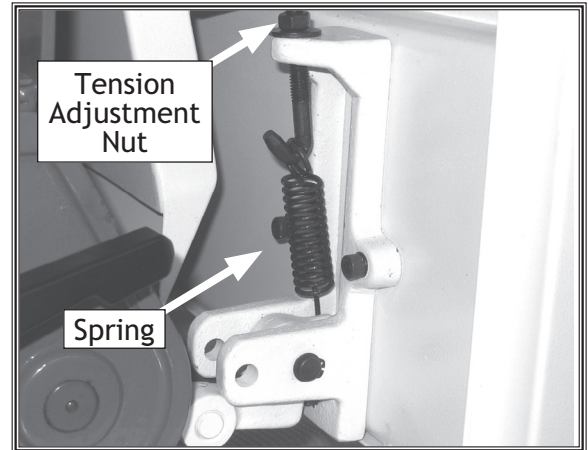

Figure 11. Pressure roller adjuster.
2. Open both upper access doors and locate the four tension springs shown in **Figure 11**.
3. The position of the tension adjustment nut (**Figure 11**) controls the spring tension. Turn the nut clockwise to increase the tension and counterclockwise to decrease the tension.